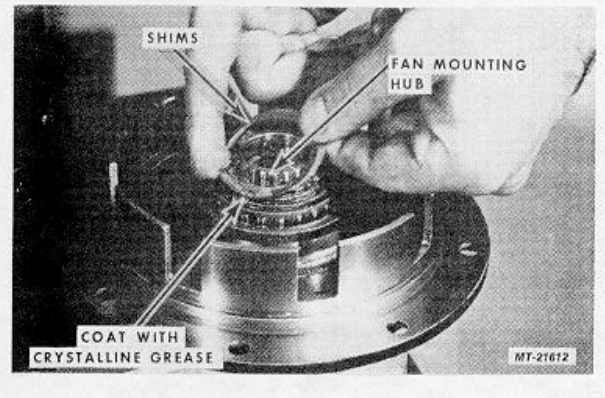

Fig. 82
45. Install proper Clutch Shims (as was determined by "Selection of Clutch Shims, Fig. 82).